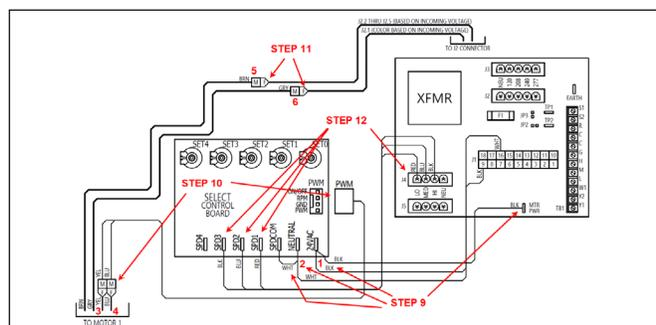

Figure 61 - Select PWM Electrical Connections
CONNECT POWER TO SELECT PWM (See Figure 61)
CONNECT MOTOR CONTROL SIGNAL TO SELECT PWM (See Figure 61)
CONNECT MOTOR POWER WIRES TO FRBii (See Figure 61)
CONNECT FAN CONTROL WIRES TO SELECT PWM (See Figure 61)
- Ensure that the new wires have been connected as specified in Figure 61.